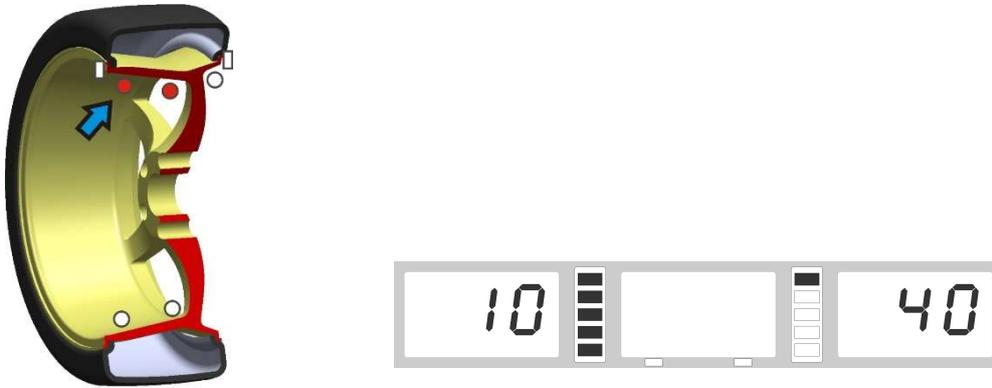

Fig. 11
- Slowly turn the wheel further anti-clockwise. Now the left display with fully lit LEDs, shows the correct angular position where the balancing weights (12 o'clock position) must be placed on the inside, as shown in **fig.11** .